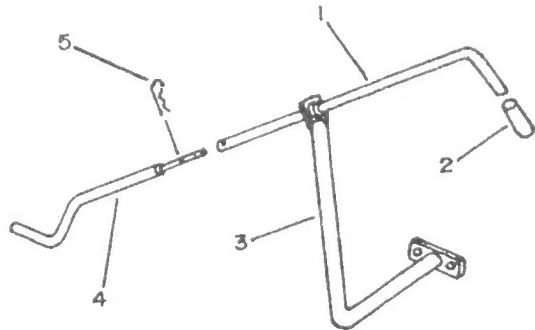

FIGURE 11
- e) Install 1/2 X 3" handle grip (fig.11, item 2) on angle handle (item 1).
- f) Insert handle through the grommet on support (fig.11, item 3) and insert on handle extension (item 4). Secure with 2.5 mm hair pin (item 5).
- b) Install 1/2 X 3" handle grip (fig.11, item 2) on angle handle (item 1).
- c) Insert handle through a grommet on the support (fig.11, item 3) and insert on handle extension (item 4). Secure with 2.5mm hair pin (item 5).